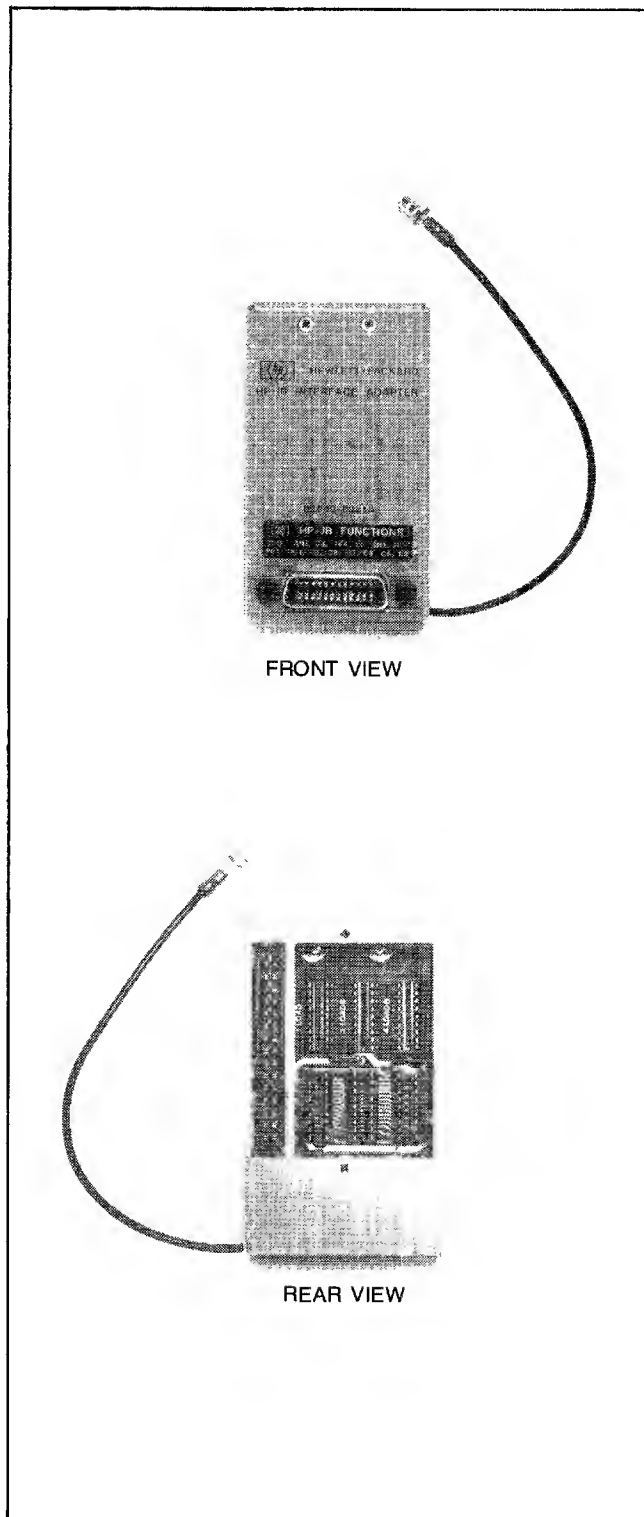

Figure 8-2. HP-IB Interface Adapter
3. An HP-IB Interface Adapter (part no. 02640-60215). See figure 8-2. This item serves two purposes. First, it provides a means of connecting an HP-IB cable to the interface PCA. Second, it provides you with a means of increasing the maximum combined amount of interconnecting cable permitted in your HP-IB configuration.